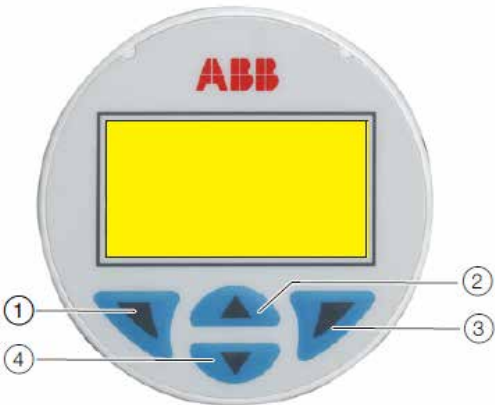

Figure 4
The LCD HMI in case of transmitter errors or malfunctioning is capable of displaying specific error/fault messages to help the user in identifying the problem and resolve it. In case of an alarm, a message consisting of an icon and text appears at the bottom of the process display. Use the (1) key to call up the information level (figure 4). Use the “Diagnostics” menu to call up the error description with a help text. In the error description, the error number is displayed in the second line (M028.018). Two further lines are used to describe the error. The device status is divided into four groups. The message text beside this icon in the display provides information about where to look for the error inside these areas: Electronic, Sensor, Configuration, Operating and Process.